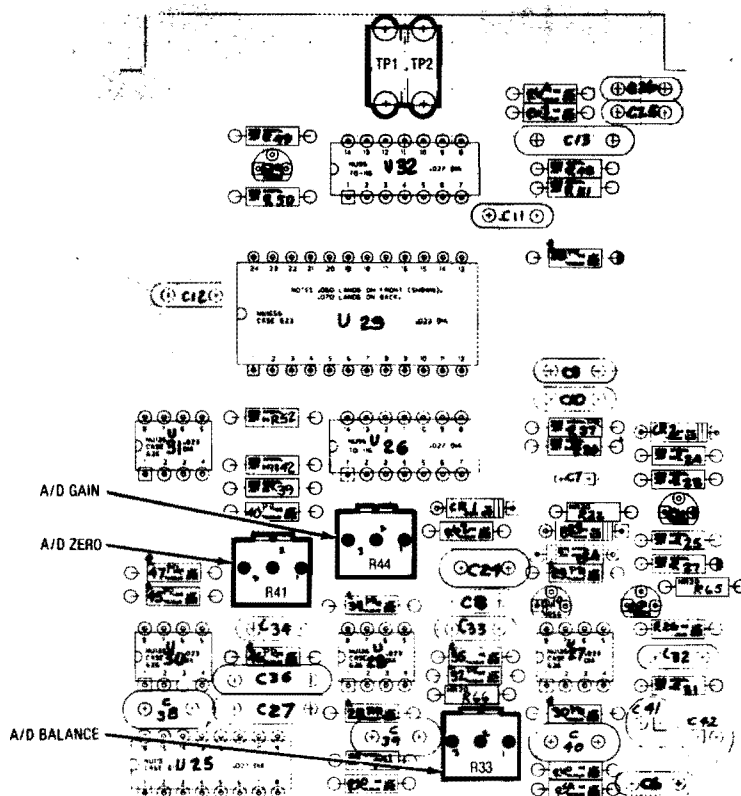

Figure 5-19. Processor I/O A/D Alignment Points
9. Disconnect the external DVM. With the DVM input jack still shorted adjust the A/D Zero Potentiometer on the I/O Board (Figure 5-19) for a 0.0 VDC reading on the R2001A CRT display.
11. Adjust the A/D Gain Potentiometer on the Processor I/O Board (Figure 5-19) for a DVM reading on the CRT equal to the voltage measured at TP 12 with the external DVM for paragraph 5-119.6.
14. Adjust the A/D Balance Potentiometer on the Processor I/O Board (Figure 5-19) for a DVM reading on the CRT equal to the voltage measured at TP11 with the external DVM in step 13.